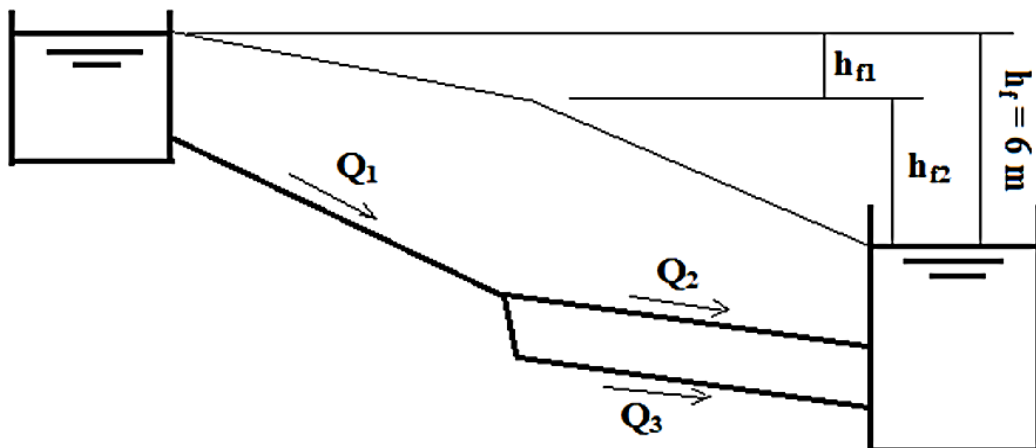

Figure 4 / Rajah 4
- (c). Two reservoirs as shown in **Figure 4** have 6 m difference in water levels, and are connected by a pipe 60 cm diameter and 3000 m long. Then, the pipe branches into two pipes, each 30 cm diameter and 1500 m long. The friction factor ( $f$ ) of all pipes is 0.01. Neglecting minor losses, determine the flow rates in each pipe.